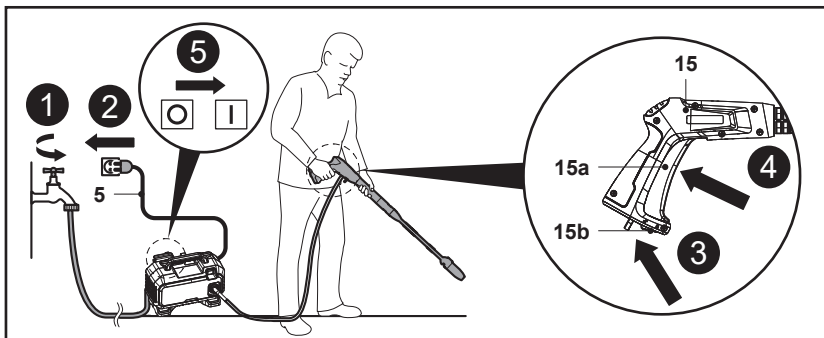

Fig. 11
1. Open the water tap to let the water flow into the pump (Fig. 11, step 1).
2. Connect the power cord (5) to power supply ensuring that the on/off switch (3) is in the off position (Fig. 11, step 2).
3. Pull the trigger lock (15b) at the bottom of spray gun (15) back to unlock the spray gun trigger (15a) (Fig. 11, step 3).
4. Fully press the trigger (15a) until there is a constant flow of water to clear the air from the machine and water supply hose (Fig. 11, step 4). Release the spray gun trigger (15a) afterwards.
5. Switch on the machine by pressing the on/off switch (3) at "I" position (Fig. 11, step 5).